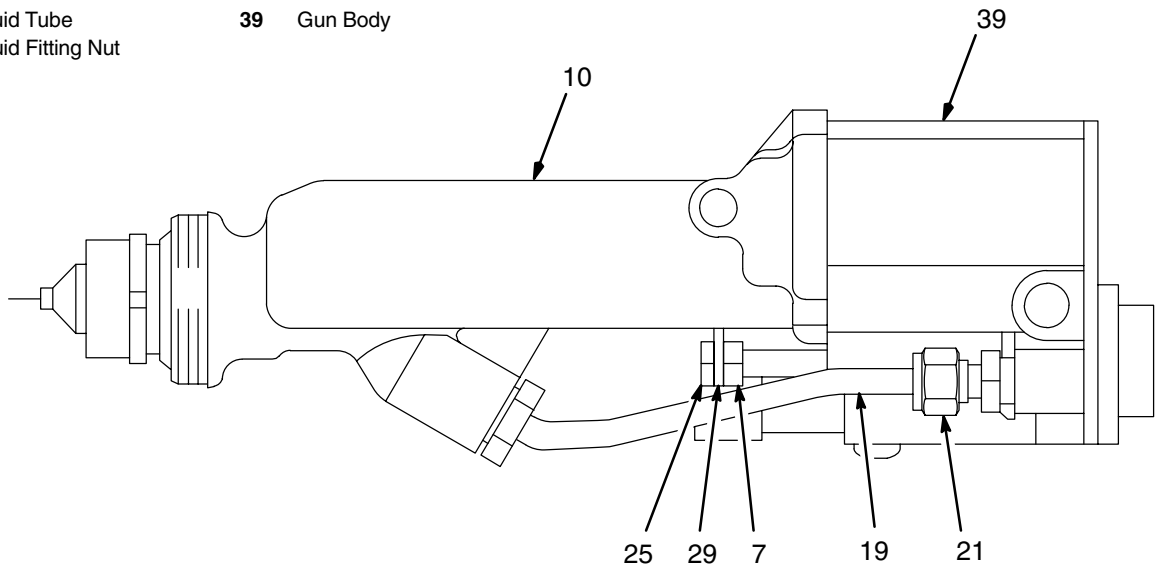
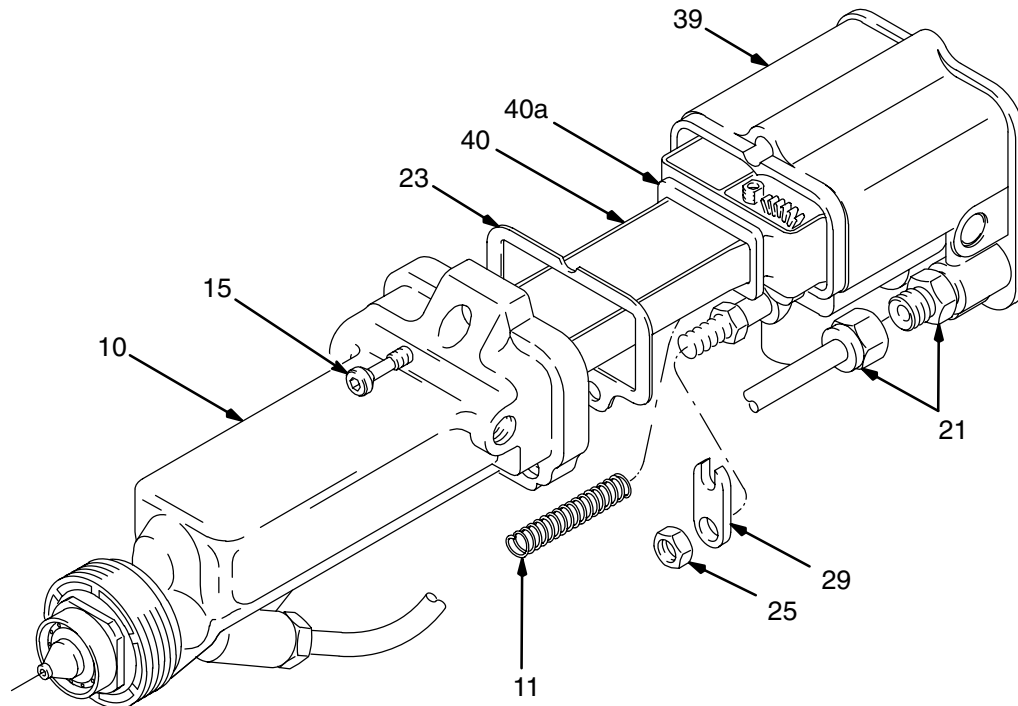

Fig 19
Fig 20
1. Carefully loosen the fluid fitting nut (21). Pull the tube (19) out of the fitting. Make sure both ferrules and the nut stay with the tube. See Fig 19 .
2. Remove the jam nut (25) and actuator arm (29).
3. Using the ball end wrench (46), supplied, loosen the three socket head cap screws (15). See Fig 20 .
1. Be sure the gaskets (23 & 40a) and spring (11) are in place. See Fig 20 . Replace if damaged.
2. Place the barrel (10) over the power supply (40) and onto the gun body (39). Make sure the fluid rod spring (11) is seated properly.
3. Tighten the three socket head cap screws (15) oppositely and evenly with the ball end wrench (46). Tighten the cap screws to 18 in-lbs (2 N•m) **MAXIMUM** (about a half turn past snug). **DO NOT** over tighten.
1. Remove the jam nut (25) and arm (29). See Fig 20 .
8. Install the arm (29) and jam nut (25), with the jam nut assembled flush to the end of the rod. See Fig 20 , page 22.